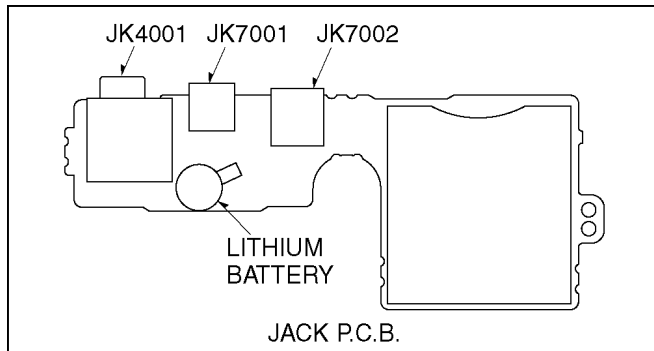

Fig. B1
2. Unsolder the Lithium Battery "ML-621S/F9D" and then replace the new one. (See Figure B1.)